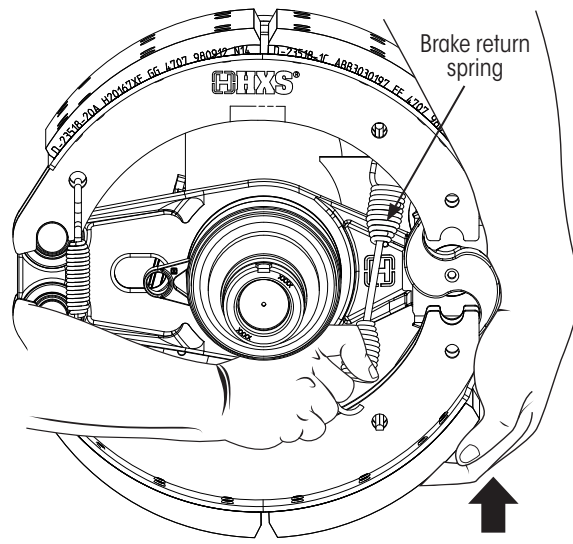

Figure 3: Removing brake return spring
3. **Remove** the return spring by **lifting up** on the lower brake shoe and **unhooking** the brake return spring (Figure 3).